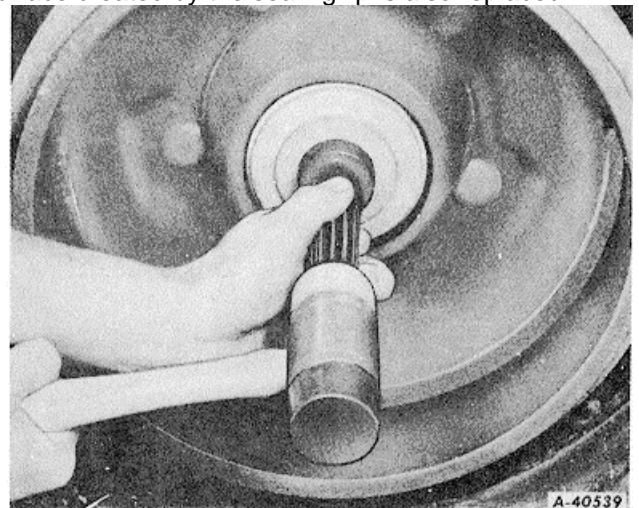

Fig. 6
4. Install hub seal using SE-1904 Installer Set (Fig. 6). Select the size disc which will apply force to outer edge of hub seal and prevent seal from becoming distorted or damaged.